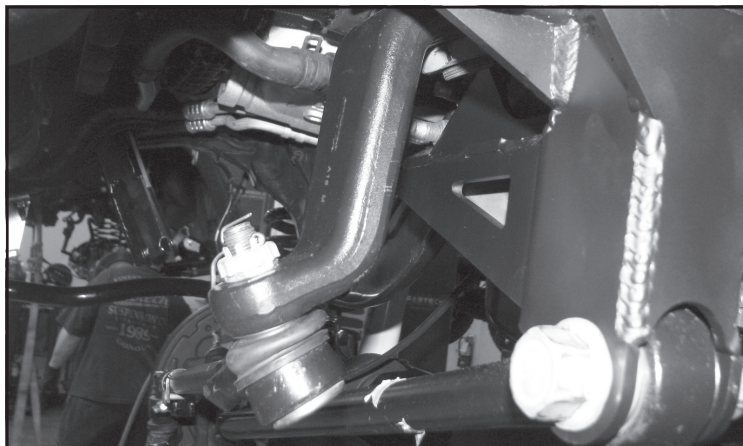

FIGURE 16 - STEP 22
22. Reinstall the track bar to the new frame bracket. Torque to 406 ft-lbs. Install the draglink to the new Fabtech pitman arm using the factory hardware and the new supplied cotter pin. Torque to 129 ft-lbs **NOTE: The drag link will need to be rotated 180 degrees and installed from the bottom side of the pitman arm.** **SEE FIGURE 16**